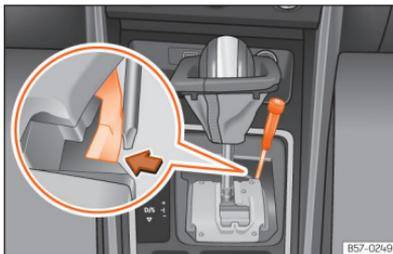

Fig. 91 Selector lever: manual release from position P.
- Using the flat part of a screwdriver, press the yellow tab sideways and keep it pressed down  **Fig. 91**.